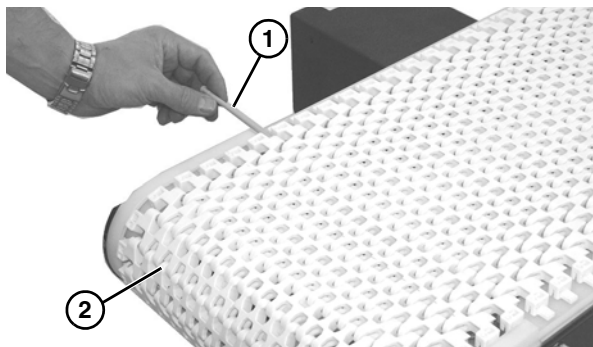

Figure 16
1. Use a punch and hammer to push the belt rod (Figure 16, item 1) out by striking the rod end opposite the retaining head.
2. Slide the old belt (Figure 16, item 2) off the conveyor frame.